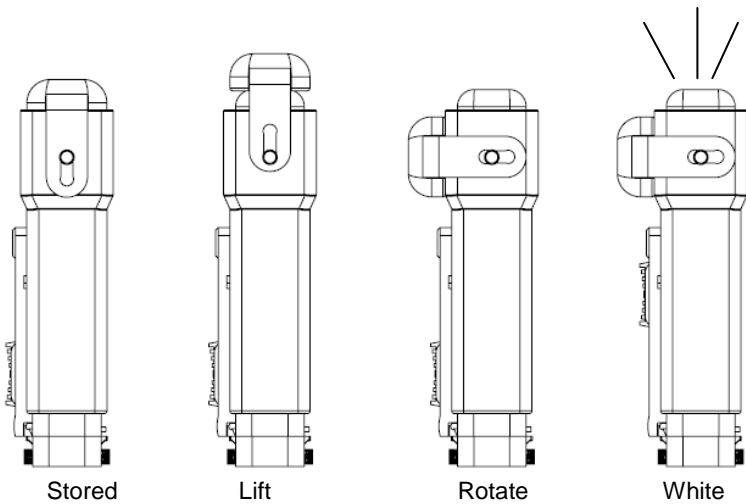

Figure 2
With the flashguard shield in the retracted (stored) position, slightly raise the IR filter and rotate it either left/right 90°, push filter in to lock into place. (See Figure 2)
Select the white light function (See Figure 2), turn the switch to ON and observe that the strobe lamp flashes. Allow the light to flash for nine (9) minutes, and then manually count the flash rate of the strobe during the final one minute of the test. This rate should be 50 ± 10 flashes. It is not necessary to directly observe the light flashes during this evaluation. This inspection should be performed in a dark room or enclosure.